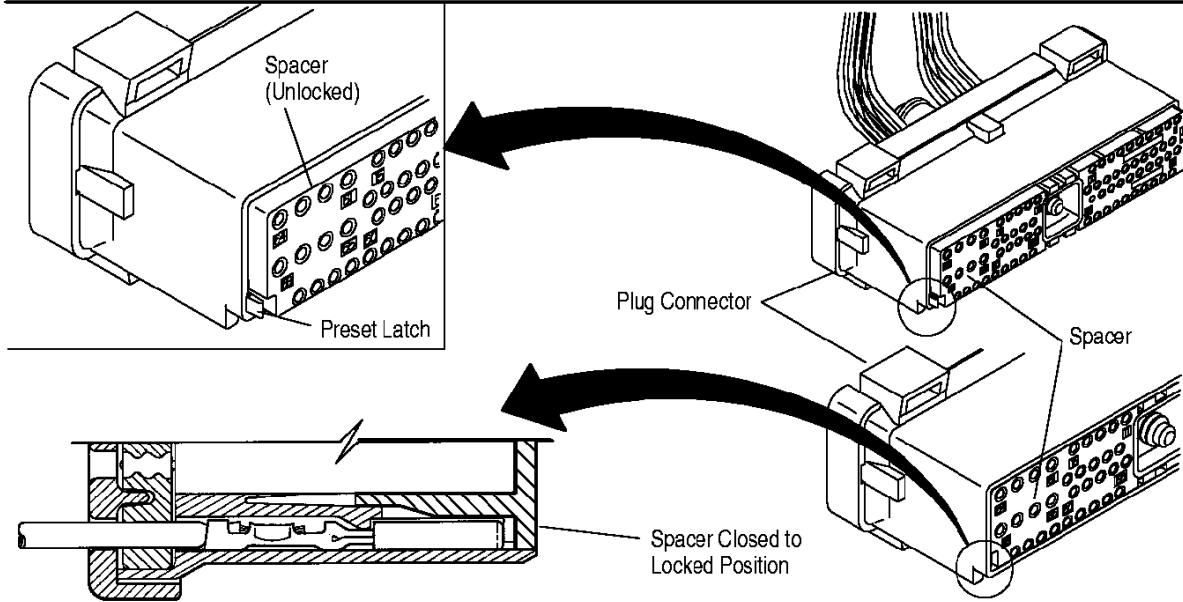

Figure 3
3. After all required contacts have been inserted, the spacer must be closed to its *locked* position. Release the locking latches by squeezing them inward and slide the spacer forward until it is flush with the housing plug assembly. See Figure 3.